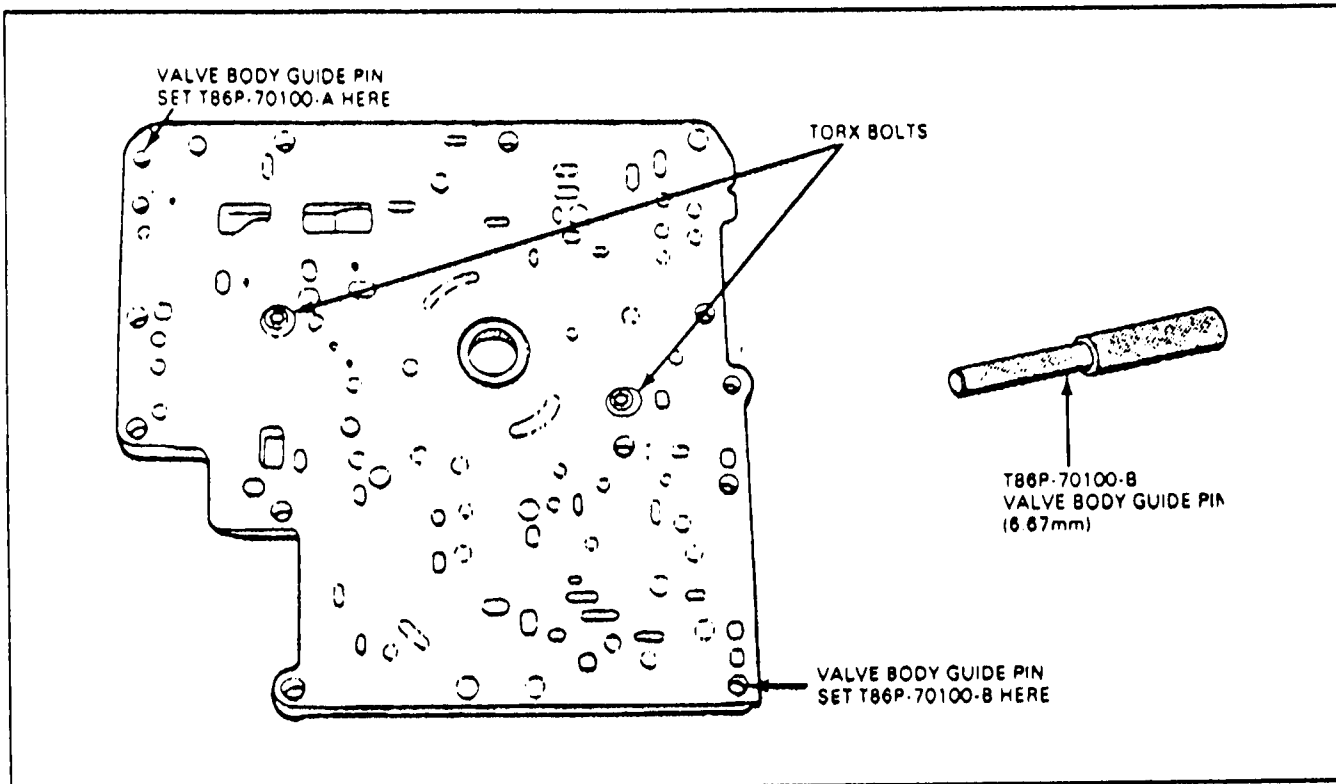

Figure 44
2. Insert valve body guide pin T86P-70100-A (.271" Diameter) and valve body guide pin T86P-70100-B (.262" Diameter), as shown in Figure 44.